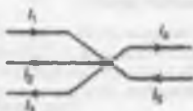

Figure 13.87
- 1 Which of the following statements is true: For the junction in the network shown in Fig. 13.87: